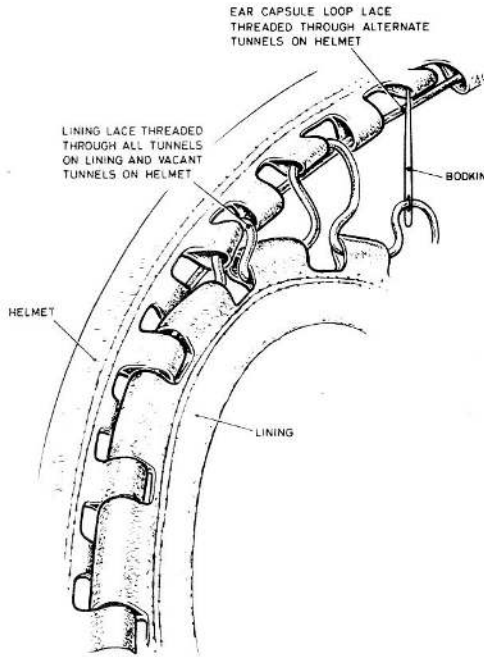

Fig. 6 Lacing the helmet lining
- (2) Pull the neck pad forward to expose the interior of the helmet, untie the nylon lace securing the lining to the shell and unlace for about six inches on each side of the centre line.
- (3) Unfasten the grey sponge pad and cable assembly. Remove the pad and lay to one side.
- (4) Sever the lashings on the outside of the helmet, one of which secures the rubber telephone holder, while the other holds the cable to the rubber housing. Do not sever the lashings securing the sound tubes to the housing.
- (5) Unscrew the terminals from the receiver and release the two 6 B.A. screws retaining the microphone plug.
- (6) Take out the complete cable assembly.
- (7) Remove the old lashing thread.
- (8) Lash the rubber housings to the shell with a minimum of three turns of double thread (*Ref. No. 32B/644*) on either side and securely tie off the ends.
- (9) Re-fasten the microphone plug. Treat the screws with locking varnish (*Ref. No. 33B/9433454*) before re-assembly. The ends of the metal clip on the end of a new plug cable assembly may require setting slightly to align the rivet nuts with the 6 B.A. screws.
- (10) Secure the cable to the helmet at the point of entry of the black lace, tying off with a reef knot on the inside.
- (11) Secure the grey sponge pad by passing the free ends of this lace through the holes in the pad and again secure with a reef knot on the inside.
- (12) Using a bodkin re-thread the nylon lace through the loops in the lining (*fig. 6*) and the alternate loops corresponding on the shell, first on one side and then on the other, finishing by crossing the lace through adjacent loops on either side of the join in the centre back of the helmet and tie off securely, ensuring the lace is taut and the lining not puckered or distorted.
Re-attaching the lining (fig. 6)
- (14) Using a new nylon lace and a bodkin, start at the centre point of the helmet at the top of the face aperture rim. Lace the cord through the alternate tunnels left vacant by the loop attachment cord on the helmet castellated strip and the wider loops on the lining (*fig. 6*). Work from the centre of the face aperture to the centre of the back of the helmet (where the pigtail emerges) first one half and then the other,